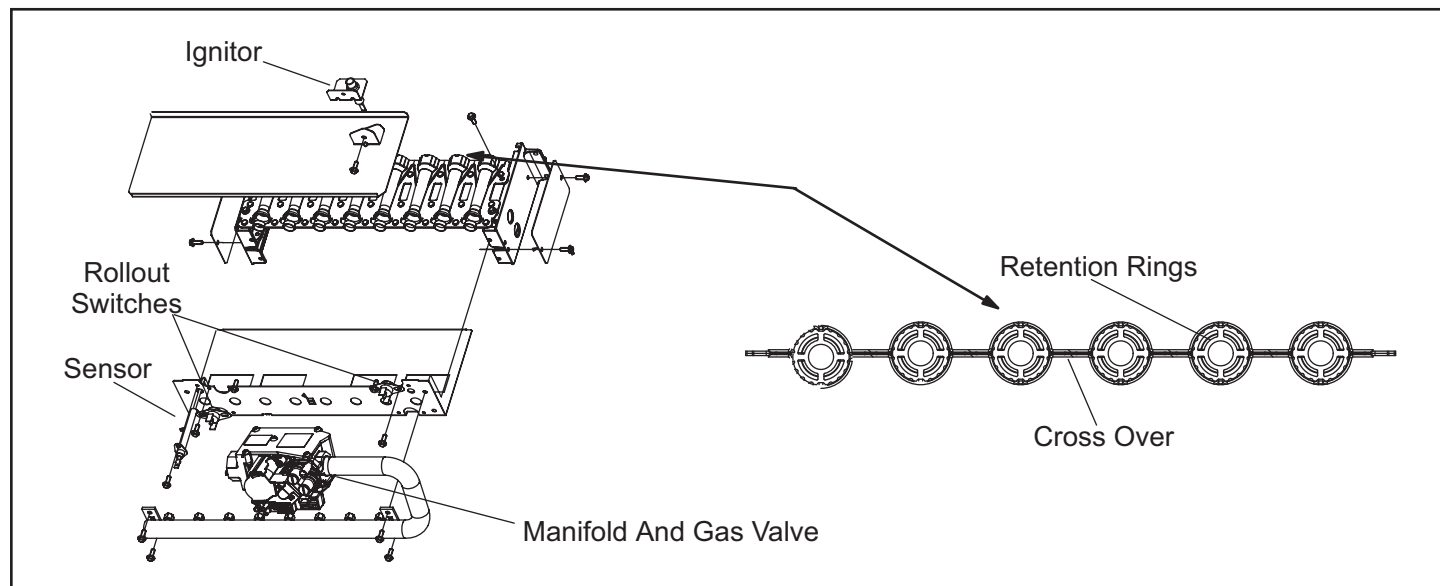

Figure 29. Burner Removal
5. To clean burners, run a vacuum cleaner with a soft brush attachment over the face of burners. Visually inspect inside the burners and crossovers for any blockage caused by foreign matter. Remove any blockage. Figure 29 shows burner detail.